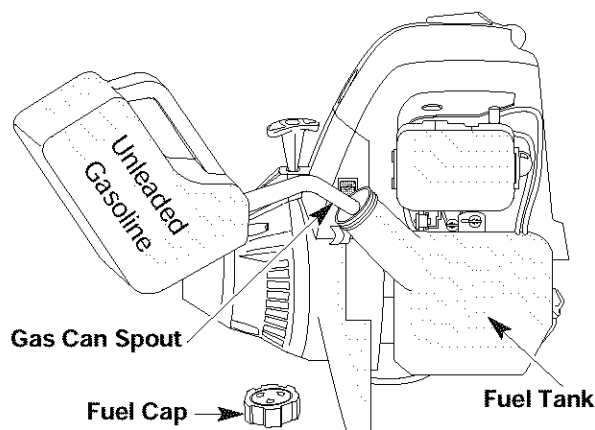

Fig. 19
1. Remove fuel cap (Fig. 19).
2. Place spout of gas container into the fill hole on the fuel tank (Fig. 19) and fill tank.